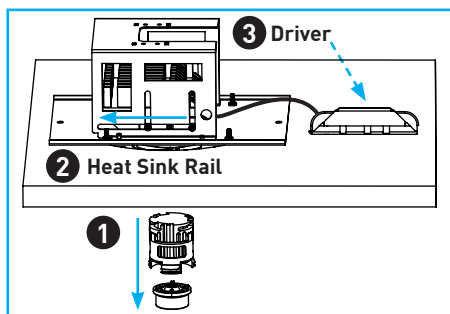

Fig.24
- Remove baffle by inserting baffle removal tool referenced in Section I-1 and carefully prying down *(Fig.24)*. Remove optic from LED module by twisting counter clockwise.
- Gently push assembly along heat sink rail, away from driver assembly, to provide sufficient clearance. *(Fig.24)*.
- Carefully pull on driver wiring harness to release the driver from the spring tab. Remove driver through housing aperture. *(Fig.24)*.